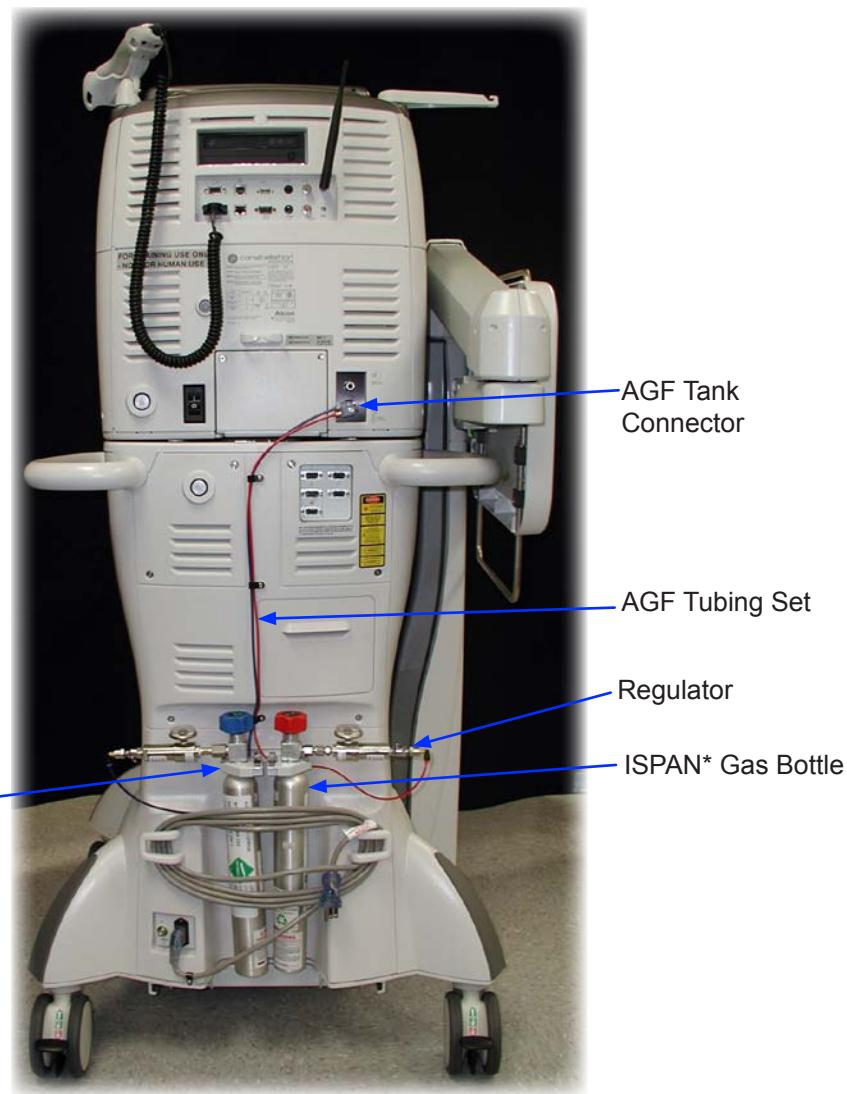

Figure 3-5 Installed ISPAN* Gas Bottles
- 2 Place the bottle/regulator assembly in the IS PAN* Gas Tank Holder on the rear of the base unit (see Figure 3-5). Fasten the clip on the tank holder to secure the bottle assembly.